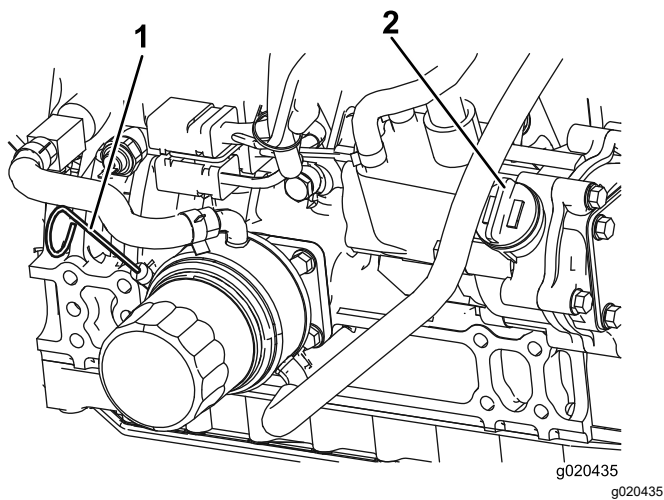

Figure 40
The oil level should be in the safe range (Figure 40).
4. If the oil is below the safe range, remove the fill cap (Figure 40) and add oil until the level reaches the Full mark.